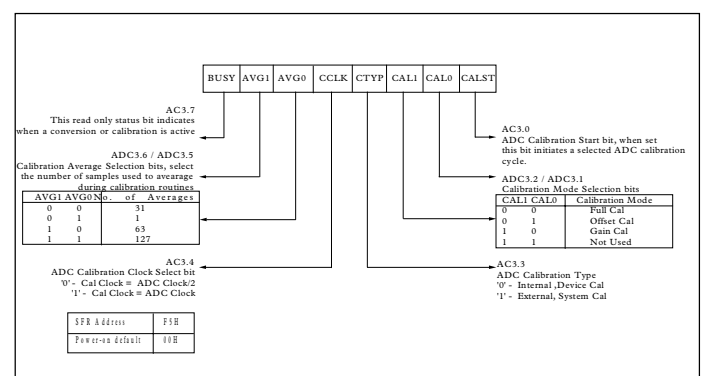

Figure 11. ADCCON3 SFR bit designations
- ADCCON3** - Controls user calibration options and Busy status as detailed in Figure 11.